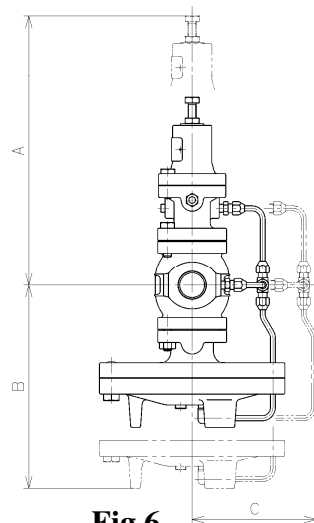

Fig.6
- (1) Install the valve perpendicularly to horizontal lines.
- (2) Provide the by-pass line. (See 4.1 Example of piping)
- (3) When the pressure reducing ratio is large, install a reducer to keep the flow velocity in the pipe below 30 m/s or less.
- (4) Provide space on the top and bottom of the valve so that the valve can be easily disassembled and inspected. (See Fig.6)